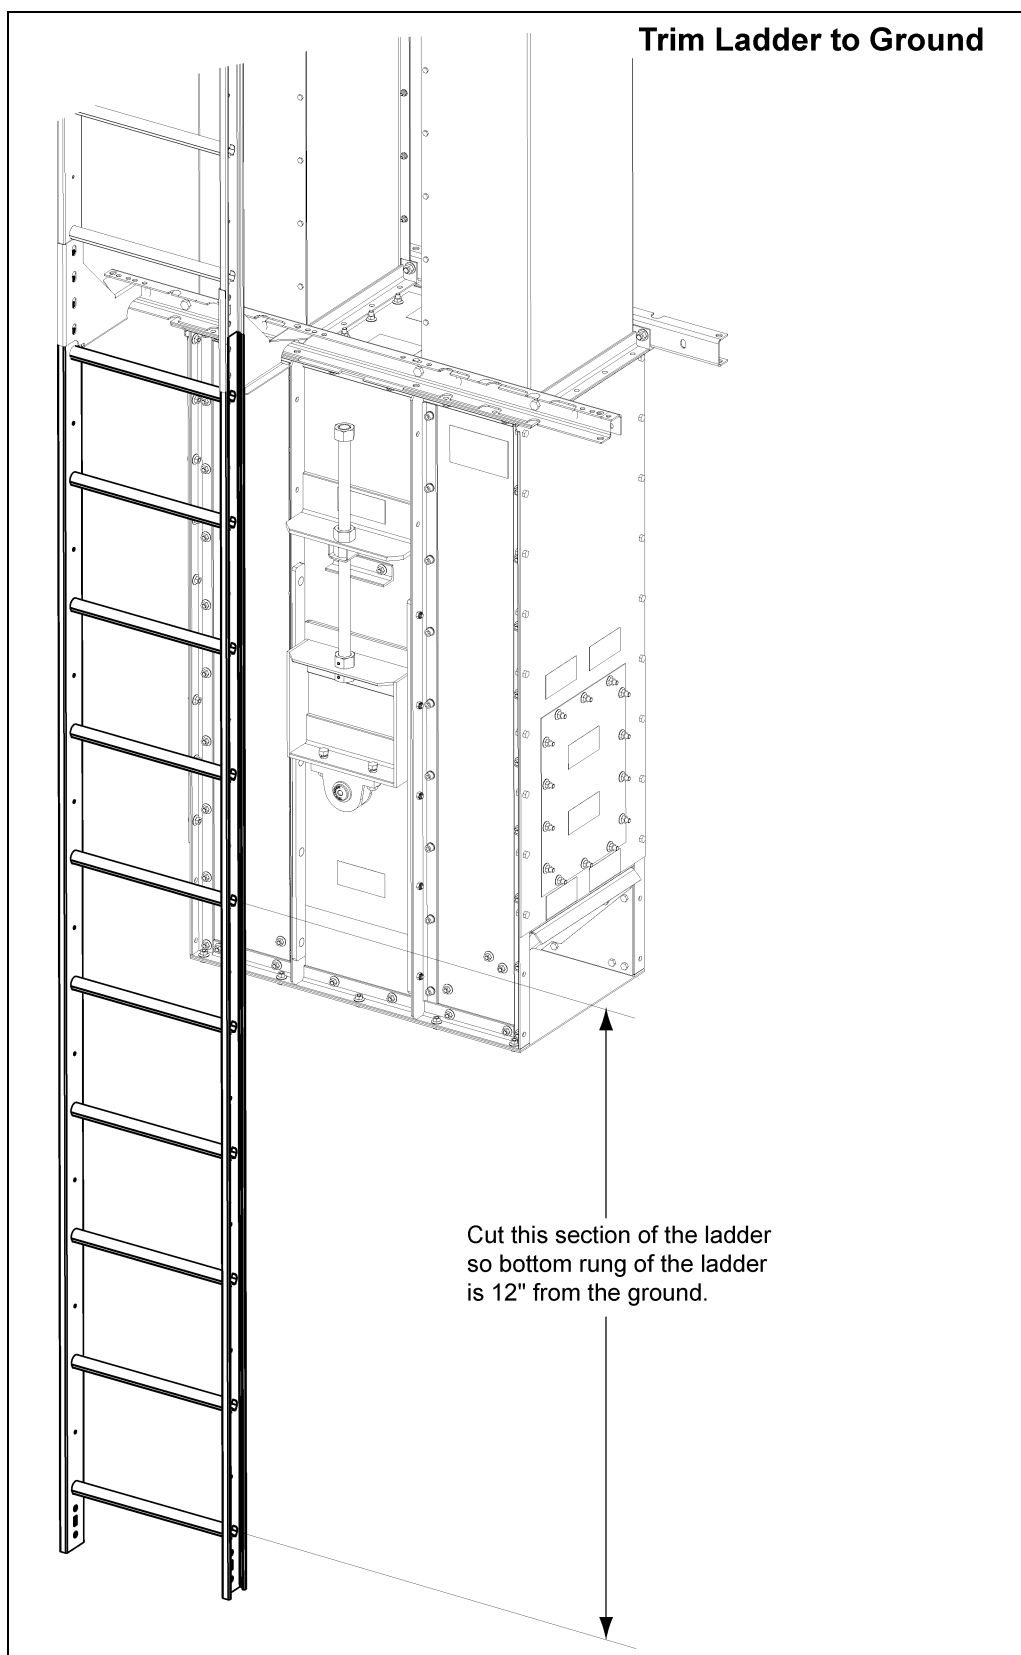

Figure 6G
1. Trim a 10' ladder section to sit so that the first ladder rung is 12" from the ground. *(See Figure 6G.)*